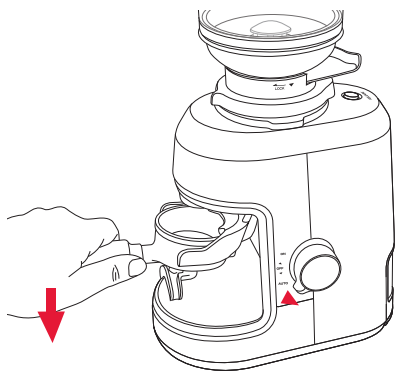

Figure 4
8. Turn the dial to the 'Auto' position and gently press down on the handle to grind into the basket. See figure 4.